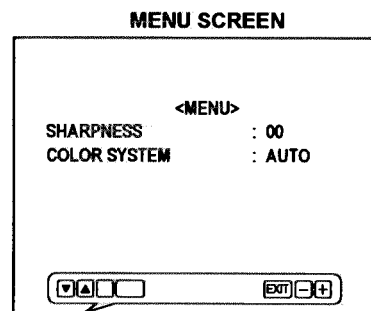

Fig.4
- 1) Press <MENU> button. The MENU screen of Fig.4 will be displayed.